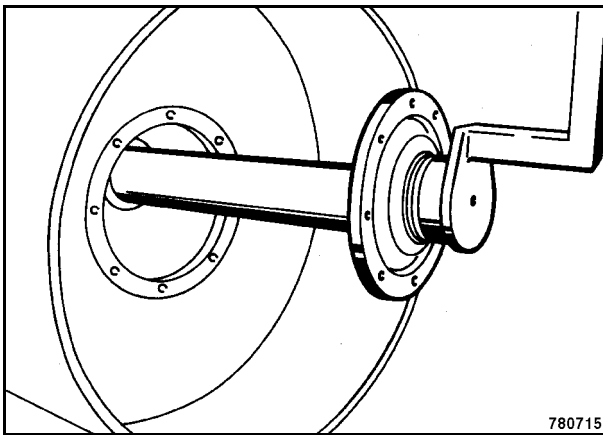

Fig. 8
11. Slide the special tool (Fig. 8) over the exciter shaft and insert it carefully into the opposite bearing.